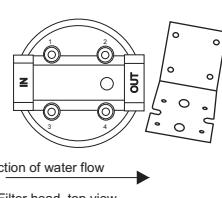

Fig.1 Filter head - top view
- Screw the mounting bracket into openings 1, 2, 3 and 4 of the filter head using four metal screws (Fig. 1).